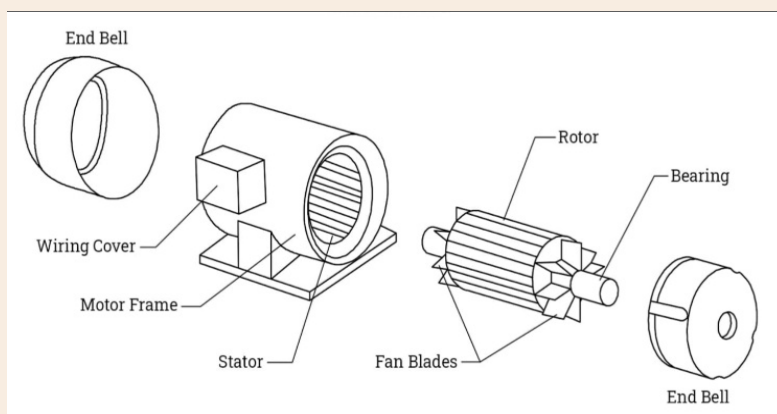

Figure 1.1.5: Main parts of a motor
2. In small groups, use real components or a picture (**Figure 1.1.5**) to identify motor parts.
3. Explain at least one function of each part in **Figure 1.1.5**